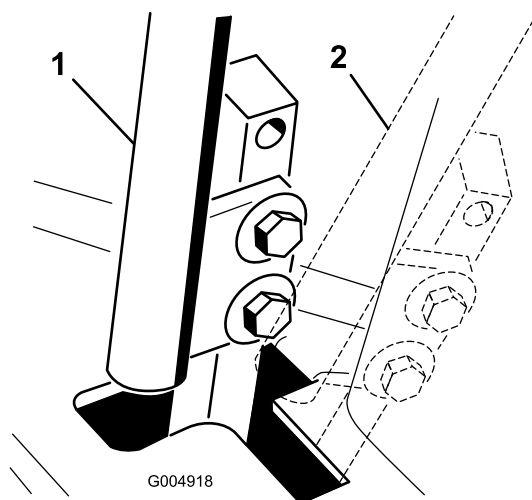

Figure 64
4. Move one of the levers to the neutral position but **not locked** (Figure 64).
6. Check where the control lever is relative to notch in console (Figure 64). It should be centered allowing lever to pivot outward to the neutral lock position.